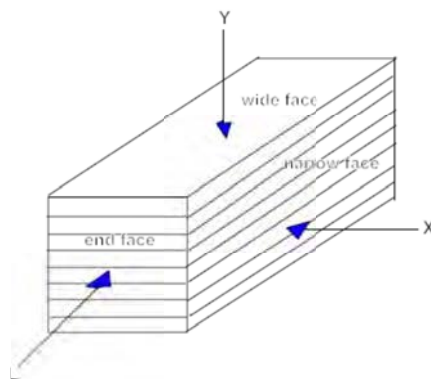

FIGURE 1
**4.3.1.2 Nail Edge Distance and Spacing:** Nails installed perpendicular to the gluelines on the wide face (see Figure 1) are permitted, with the same spacing, and edge and end distances, in accordance with the NDS for sawn lumber. Nails installed parallel to the gluelines on the narrow face of material at least  $\frac{3}{4}$  inch (19 mm) thick and  $3\frac{1}{2}$  inches (89 mm) wide must be spaced as shown in Table 4.